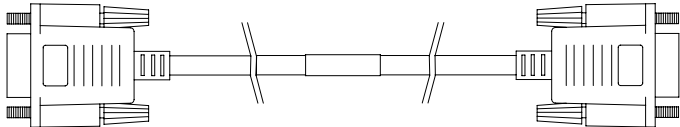

Figure 3: User-Supplied Null-Modem Cable Example
- A null-modem cable, see *Figure 3* for an example